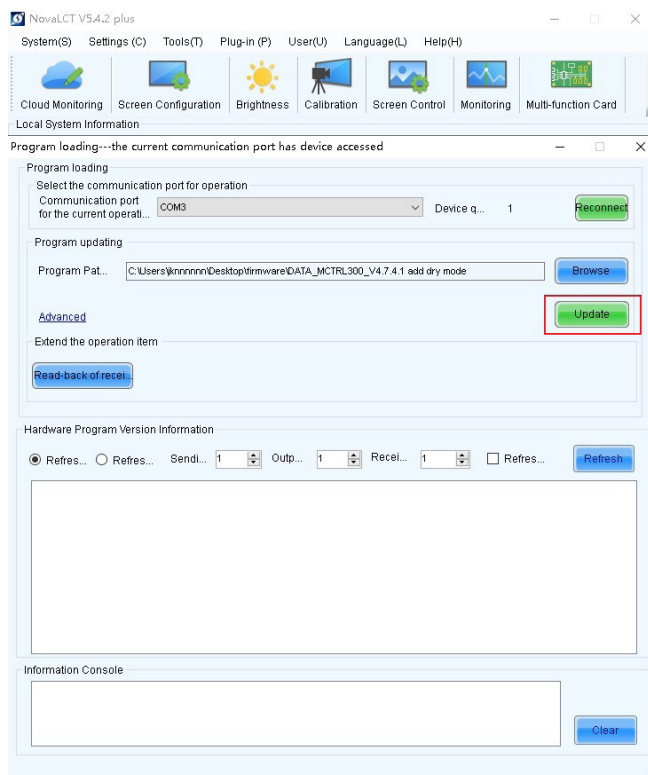

Figure 1-6
6. Click Update to start updating. See Figure 1-6.